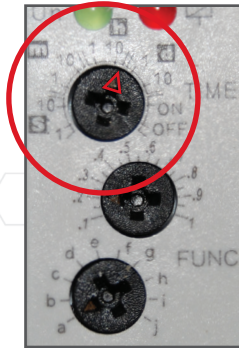
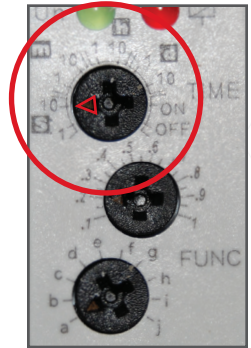

Fig. 1
Fig. 2
4. Turn the top dial of the timer counterclockwise from the 10h (Fig. 1) to the 10s (Fig. 2) band. The leg of the cross with the arrow (highlighted in red) points to the band.
6. Reset the thermostat set-point dial (red) to the factory default of 60°F and reset the top dial of the timer to the 10h (Fig. 1) band.
7. Install the control panel cover and tighten the four (4) screws.